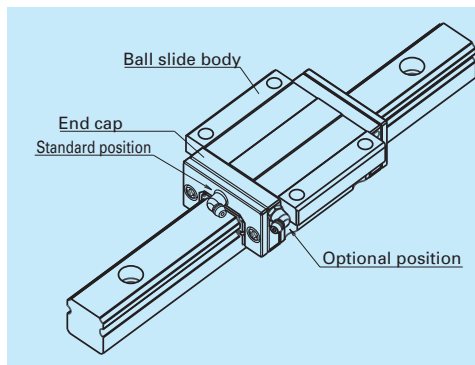

Fig. 12 Mounting position of lubrication accessories
(2) Mounting position of lubrication accessories
- The standard position of grease fittings is the end face of ball slide. We mount them on a side of end cap for an option. (**Fig. 12**)